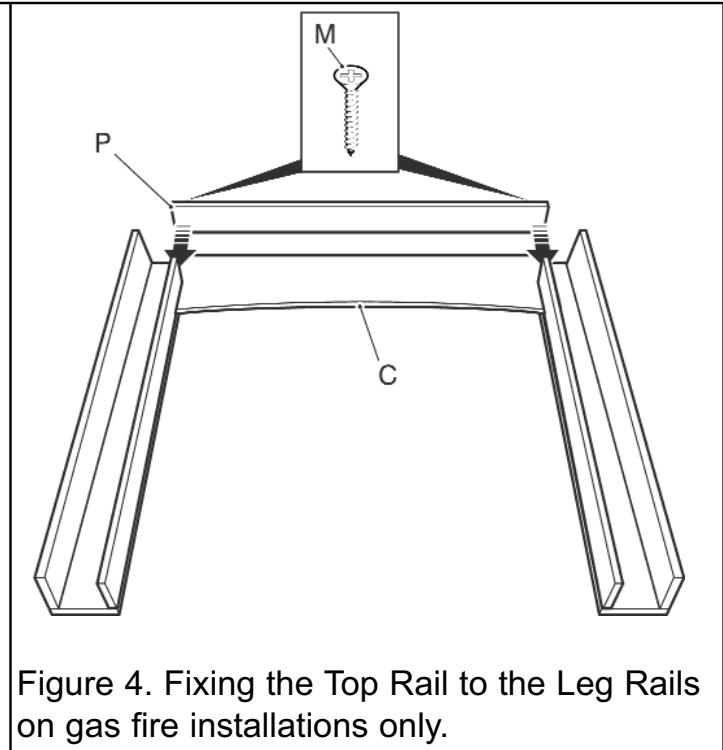

Figure 4. Fixing the Top Rail to the Leg Rails on gas fire installations only.
- Locate the Top Rail (P) to the top of the side rails. Screw to fascia board (C) using the screws (M) (See figure 4).